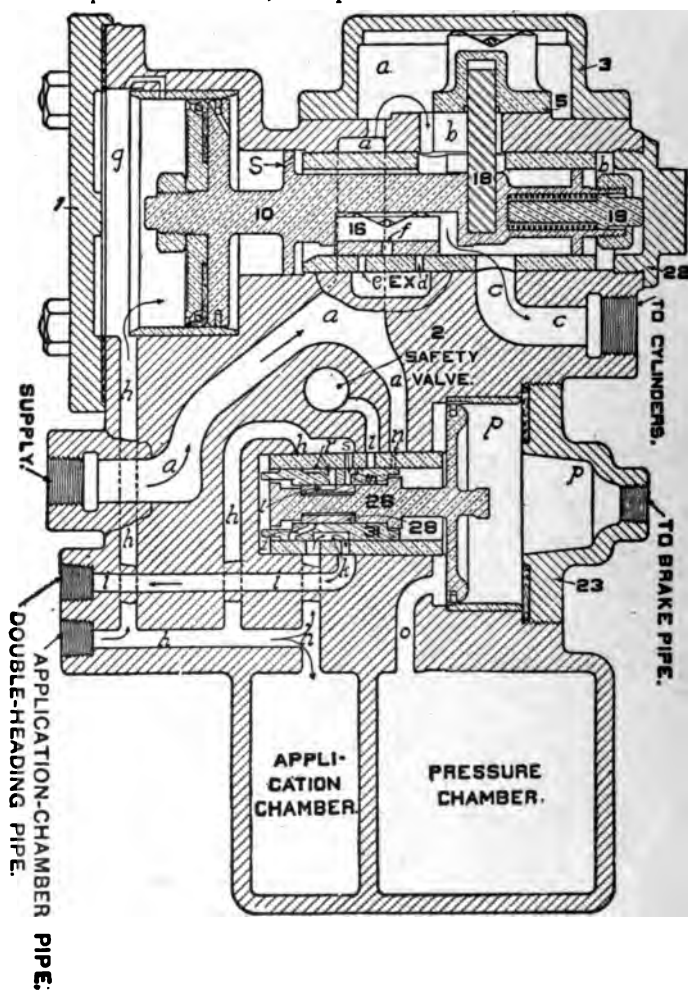
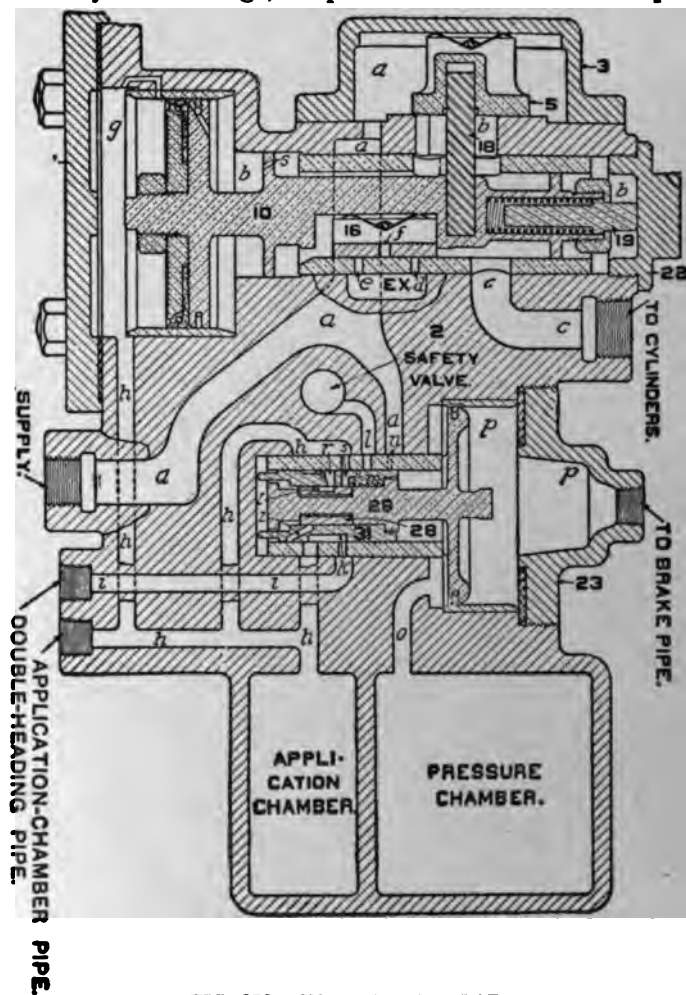

FIG. 271. INDEPENDENT APPLICATION
FIG. 272. INDEPENDENT LAP
**INDEPENDENT APPLICATION.** When the handle of the Independent Brake Valve is moved to the application position, air from the main reservoir, limited by the reducing valve to a maximum of 45 pounds, is allowed to flow to the application chamber, forcing application piston 10 to the right as shown in Fig. 271. We will assume that 45 pounds is so admitted and maintained. This movement of application piston 10 causes exhaust valve 16 to close exhaust ports *e* and *d*, and the graduating stem 19 to compress its spring; also open application valve 5 by its connection with the piston stem by pin 18. Main reservoir air then flows through port *b* and passage *c* to the brake cylinders until their pressure and that in chamber *b* equals the application-chamber pressure, in this case 45 pounds. The graduating spring then forces the application piston 10 to the left until application valve 5 closes port *b*, but without moving exhaust valve 16. This position shown in Fig. 272, is known as **INDEPENDENT LAP**.